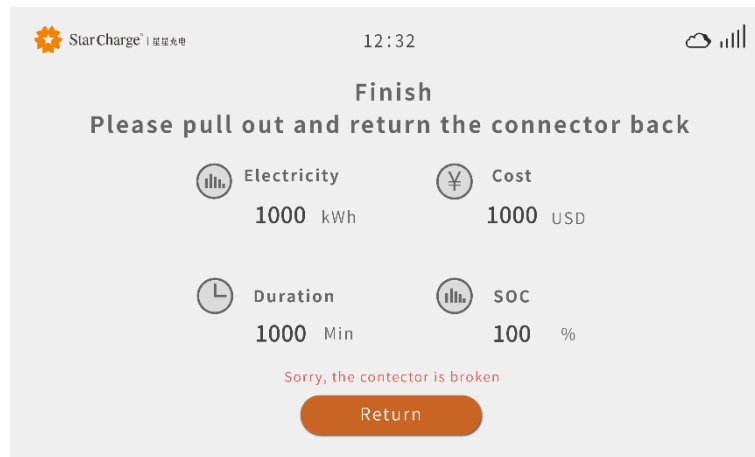

Figure 3-19 Abnormal charging interface
Step 10 Charging stops due to abnormalities at the charging equipment or vehicle, and the system will pop up as shown in Figure 3-19. Please contact the after-sales technical service for repairs.